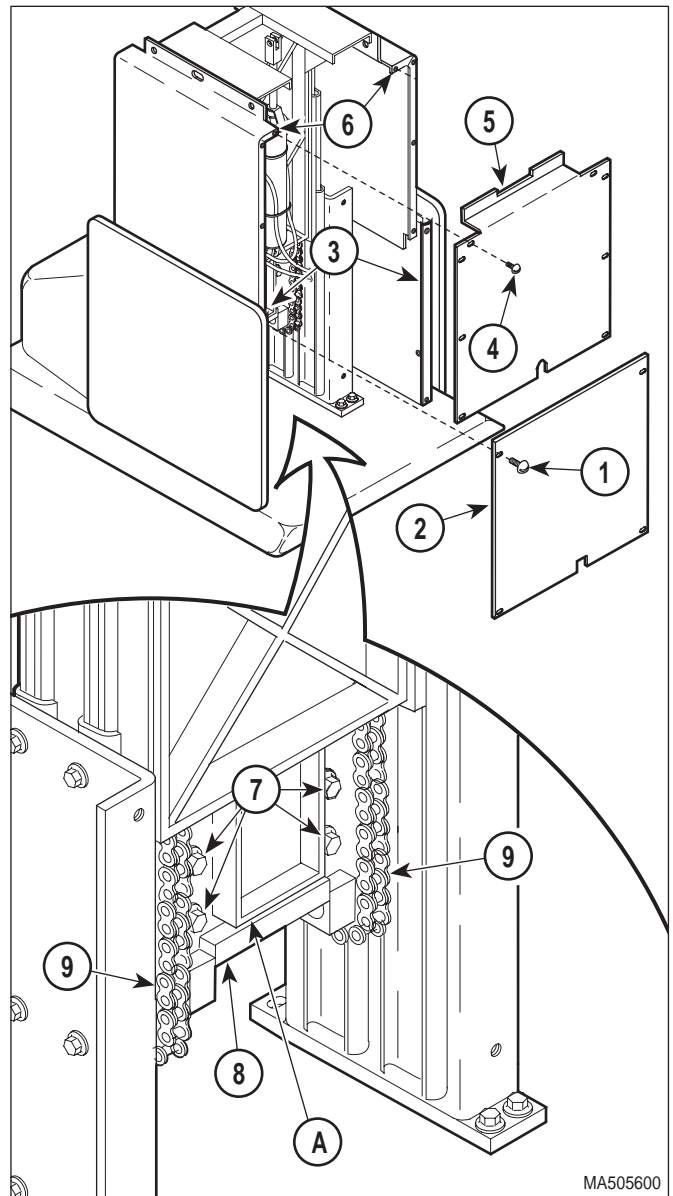

Figure 4-17. Chain Assembly Adjustment
- (1) Raise TABLE UP function all the way up.
- (2) Unplug table power cord from outlet.
- (3) Remove four screws (1, Figure 4-17) and front outer shroud (2) from left and right hand outer shrouds (3).
- (4) Remove eight screws (4) and front inner shroud (5) from left and right hand inner shrouds (6).
- (5) Loosen four bolts (7).